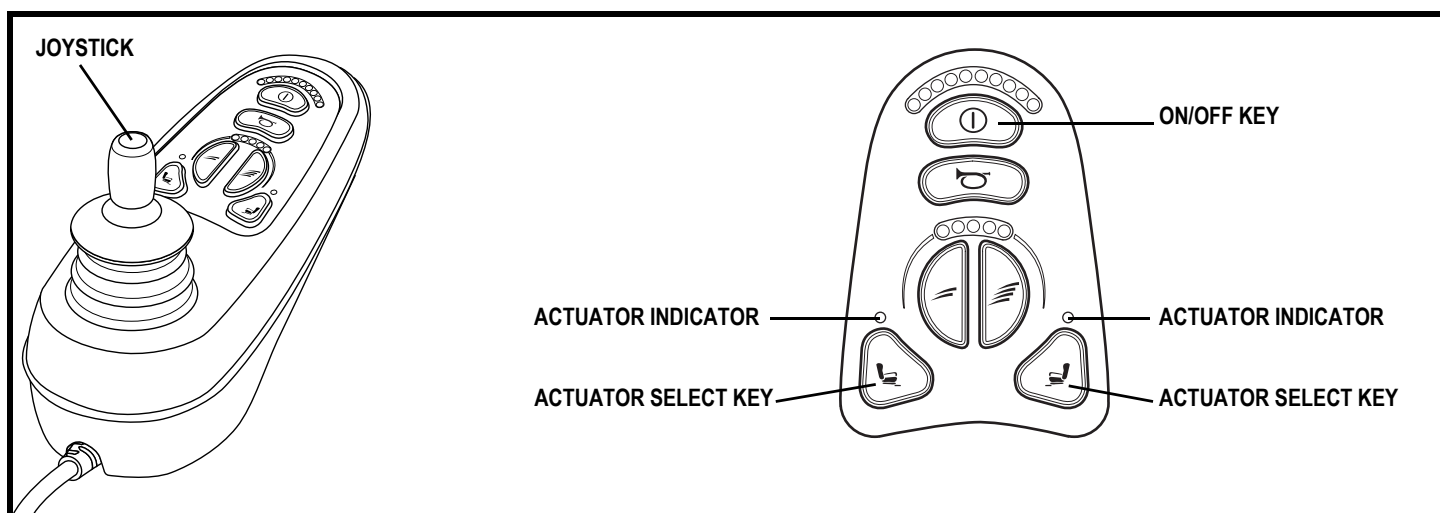

Figure 11. VR2 6-key Controller and Keypad
1. Push the on/off key to power on the chair and the controller. See figure 11.
2. Push the actuator select key to select actuator mode. Both actuator lights will illuminate. See figure 11.
5. Push the actuator select key to return to drive mode. See figure 11.